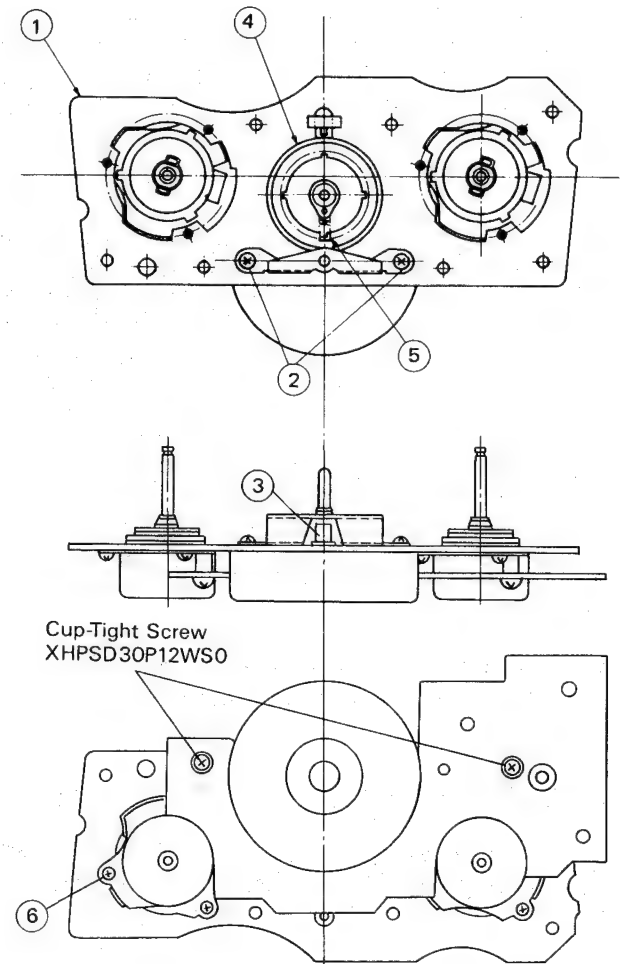

Figure 32
1. Check that the reel idler (4) has not moved off the reel chassis (1), and that the reel idler spring (5) is properly attached to the reel idler.
2. Taking care not to damage the reel motor pulley (3), install a replacement reel motor with 2 screws (XBPSD30P06J00) such that the reel motor leads run in the directions shown in Figure 32 (use of longer screws will damage the motor).
2. Move the reel idler to the center of the reel chassis as shown in Figure 32, and then pull slightly to the reel motor side to remove the reel idler.
1. Fit the replacement brake unit, facing the way shown in Figure 32, by means of the 3 fixing screws (XBPSD26P04000).